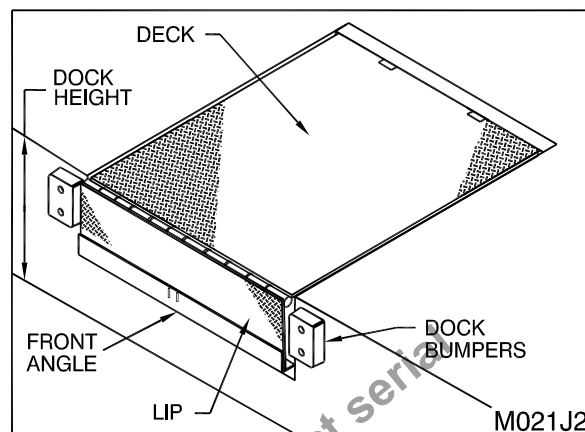

Figure 57: Deck in (Cross Traffic) Stored Position
**CONDITION #1:** The lip does not retract enough for the dock leveler to park itself with the lip behind the front angle ("Figure 57: Deck in (Cross Traffic) Stored Position" on page 48) at the stored position.
1. Load or unload End Loads with the deck and lip in the stored position as shown in “Figure 57: Deck in (Cross Traffic) Stored Position” on page 48(See “Below Level End Loading” on page 49)
4. Proceed to load/unload the vehicle. When completed, return the dock to its stored position by depressing the RAISE button. When the lip is fully retracted and clear of the truck, release the button and the dock will lower into the stored position. Visually inspect the dock leveler to ensure that it is properly stored with the lip inside the front angle. (See “Figure 57: Deck in (Cross Traffic) Stored Position” on page 48)